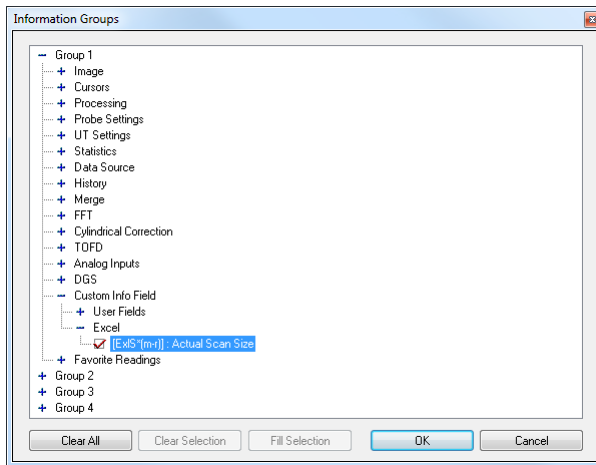

Figure 10-15 Selecting the reading imported from Excel
- b) In the **Information Groups** dialog box, expand **Group 3**, select [ExIS*(m-r)]: **Actual Scan Size**, and then click **OK** (see Figure 10-15 on page 459).